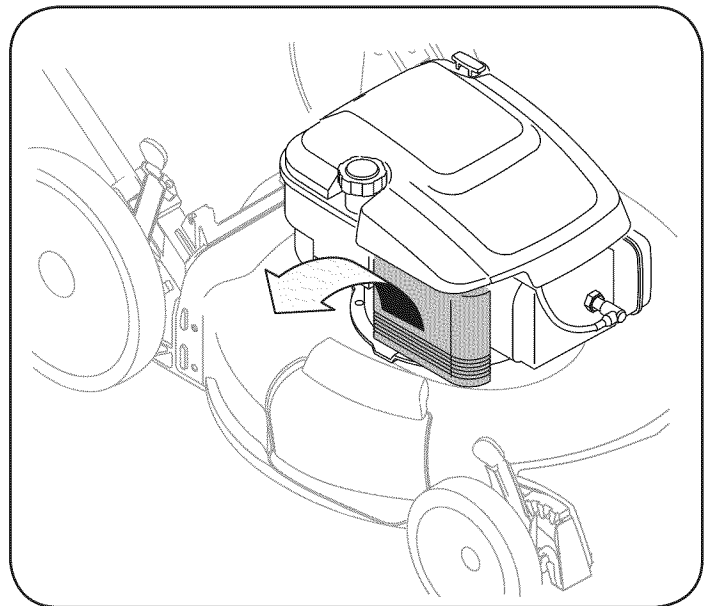

Figure 14
1. Loosen screw and tilt plastic housing cover on side of engine down. See Figure 14.